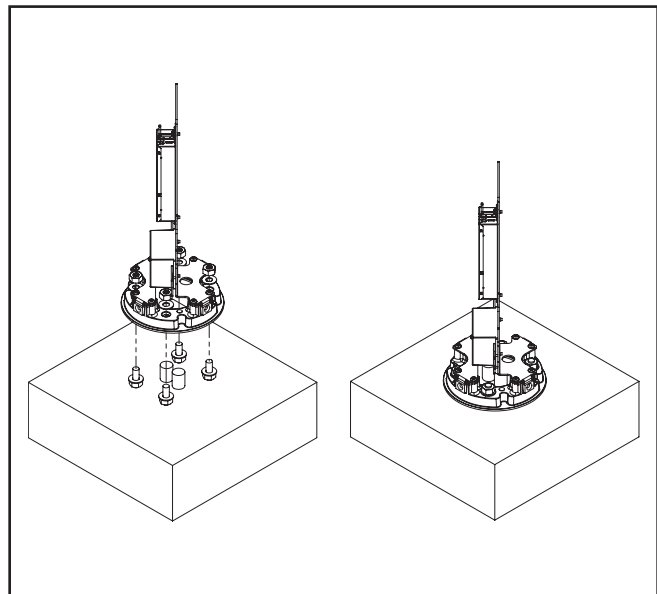

Figure 3.
6. Insert the base driver assembly onto the anchor bolts, making sure the base driver assembly is sitting on the washers. (Figure 3)